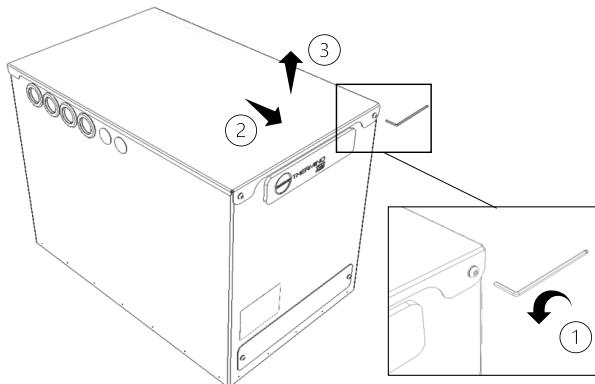

Figure 6 - Lid Removal of Thermino Heat Battery
- Remove lid. The lid is secured by 2 x M5 button (8/32") head cap screws at the front and two locating pins at the back (Figure 6):
- (1) Remove 2 x M5 (8/32") button head cap screws using 3mm hex head and set aside.
- (2) Slide the lid forward, (3) then lift the lid up and set aside.